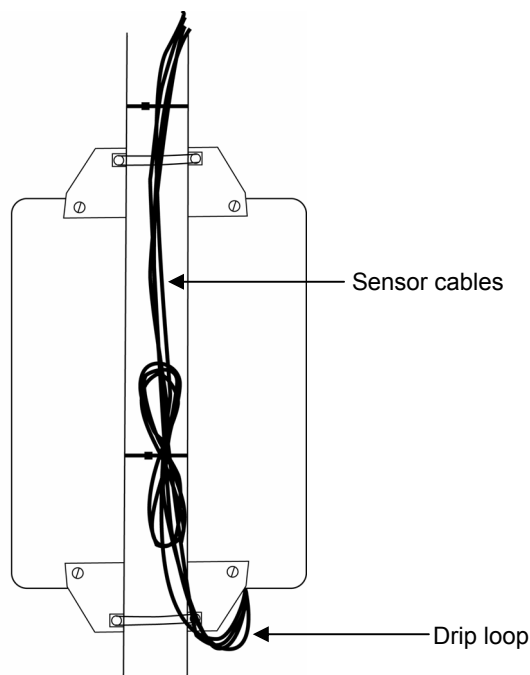

Figure 37: Sensor Cables on Mast
10. Gather the excess cable and attach the cable ties to the upper mast behind the logger enclosure (see Figure 37). Leave about a 2 inch (5 cm) drip loop of cable below the logger.